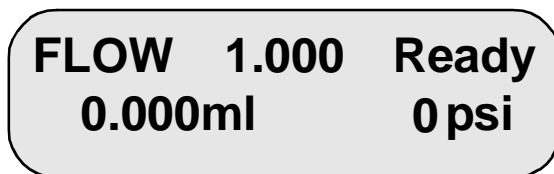

Figure 3-1 LCD Display — Ready State
Once the unit successfully performs its internal power-on diagnostics, the LCD display briefly (5 seconds) shows the pump model number (515), head size (100- μ L or 225- μ L), and firmware version (Ver n.n). The display then appears in its Ready state, as shown in Figure 3-1. To redisplay the initial screen (the screen showing model and version information), simultaneously press the Down and Menu keys. This has no effect on pump operation, and can be performed at any time.